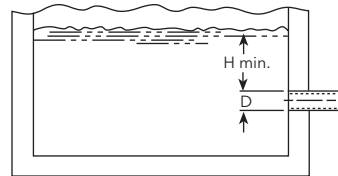

Figure 2
- Insure that the size and minimum submergence over suction inlet is sufficient to prevent air from entering pump through a suction vortex. See Figures 2 through 5.